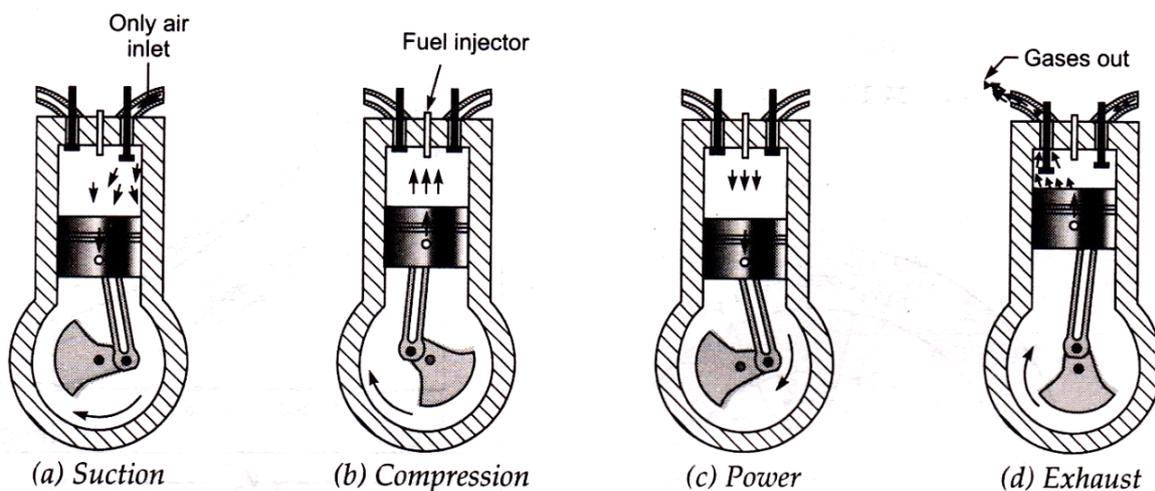

Figure 3.2 Operations of a Four Stroke Diesel Engine
1. **Suction Stroke** Suppose that the piston is very near to the top dead centre position (T.D.C.) [Fig 3.2 (a)]. During suction stroke the inlet valve is opened and the discharge valve is closed and the piston moves down (i.e. outward) due to rotation of the crankshaft either getting energy from the flywheel or a motor starter. As the piston move, vacuum is created between the piston and cylinder and the pressure in the cylinder drops below atmospheric pressure. The piston moves from the top dead centre to the bottom dead centre, only air rushes inside the cylinder through inlet manifold and valve which is cam operated. The suction process continues till the piston reaches the bottom dead centre position (B.D.C.).
2. Compression Stroke During a compression stroke [Fig 3.2 (b)], both the valves are closed and the piston moves from bottom to top dead centre position. The air is compressed up to a compression ratio which depends upon the type and need of the engine. Since both the valves are closed and the piston moves inwards, there is a reduction in volume of the air which results in an increase of pressure and temperature of the cylinder contents. For Diesel engine the compression ratio is 16 to 22 and the pressure and temperature at the end of compression are 28 to 59 bar, and 600°C to 700°C respectively.
3. Expansion Stroke During power stroke [Fig 3.2 (c)], both the valves are closed. The power stroke includes combustion of fuel and expansion of the products of combustion. The combustion starts at the end of the compression stroke when the piston is approaching the T.D.C. position. In C.I engine, one or more jets of fuel, compressed to a pressure of 105-210 bar by an injector pump are injected into the combustion chamber by a fuel nozzle at the end of the compression stroke. The injected fuel is vaporized in the combustion chamber, when the fuel vapor is raised to self-ignition temperature, the combustion then starts automatically and the pressure of the gas however remains constant during combustion.
4. Exhaust Stroke During this stroke, the piston moves from the bottom dead centre to the top dead centre, exhaust valve opens and the inlet valve remains closed [Fig 3.2 (d)]. Burnt gases of the previous stroke are expelled out from the cylinder by upward movement of the piston. At the end of the power stroke the pressure of the gas is about 4-5 bar which is higher than the exhaust manifold pressure.